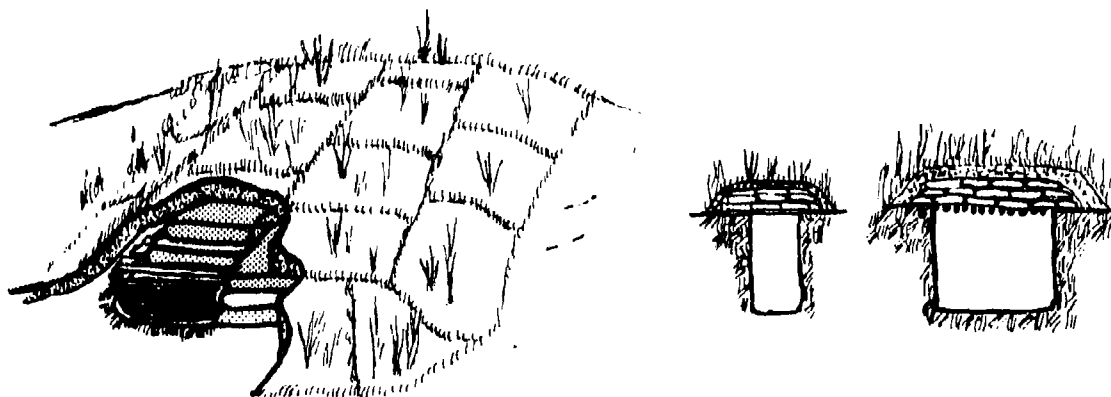

FIGURE 9. PROTECTING SANDBAGS WITH SOD AND EARTH COVER.
--"Protect your sandbags." Sandbags exposed to thermal radiation will burn and spill their contents, which can then be moved more easily by the blast wave. Covering sandbags with a small amount of earth and/or sod will eliminate this problem, enhance your camouflage, and provide valuable additional conventional fragmentation protection (see Figure 9).